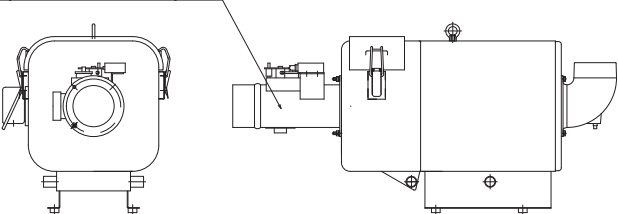

Fig.23. After installing the fire prevention damper
- ② Install the fire prevention damper and packing, then secure them with the duct companion flange mounting bolts (see Fig.23).